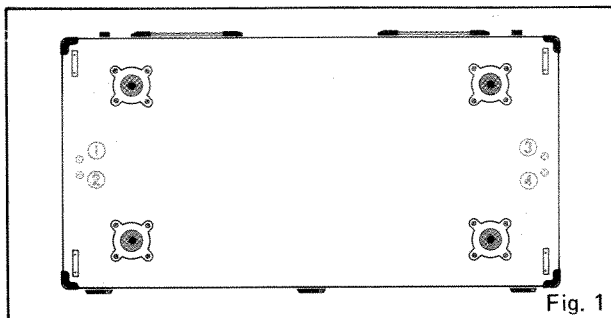
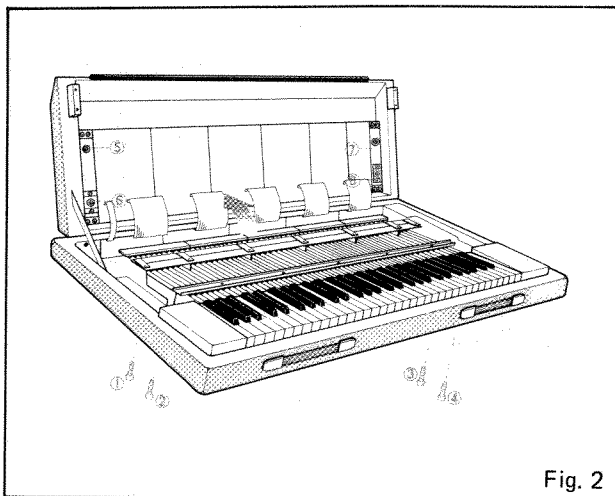

Fig. 1
Fig. 2
Then raise up the panel, as shown in Fig. 1 and 2.
Remove screws (5) to (8). Fig. 1, Fig. 2